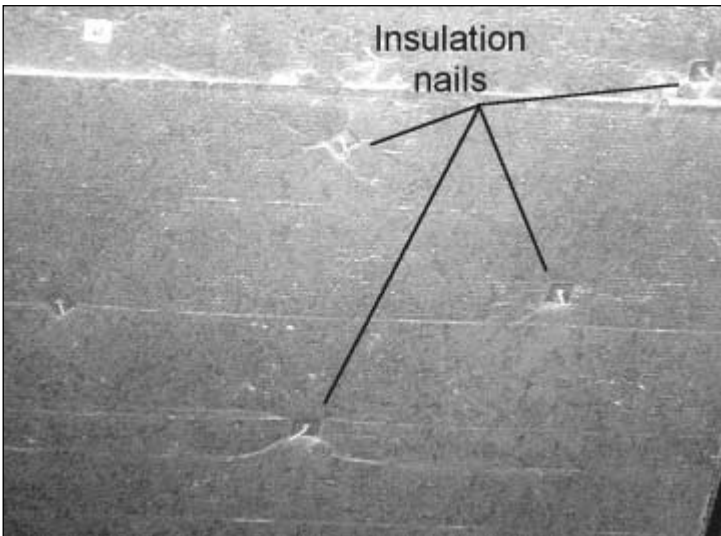

FIGURE 15.13 Glued-on nail type insulation attachments.
- Glued-on nail type insulation attachments (Figure 15.13) will cause puncture wounds if stepped on.